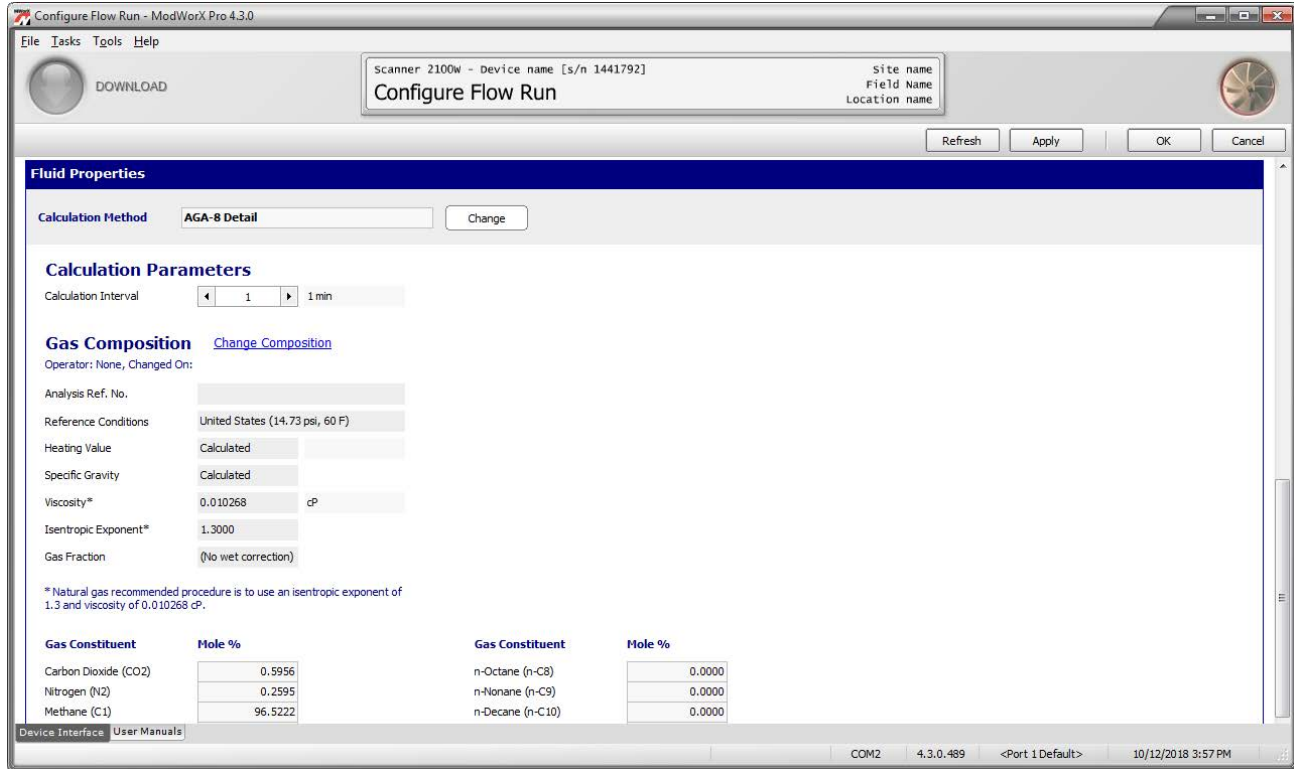
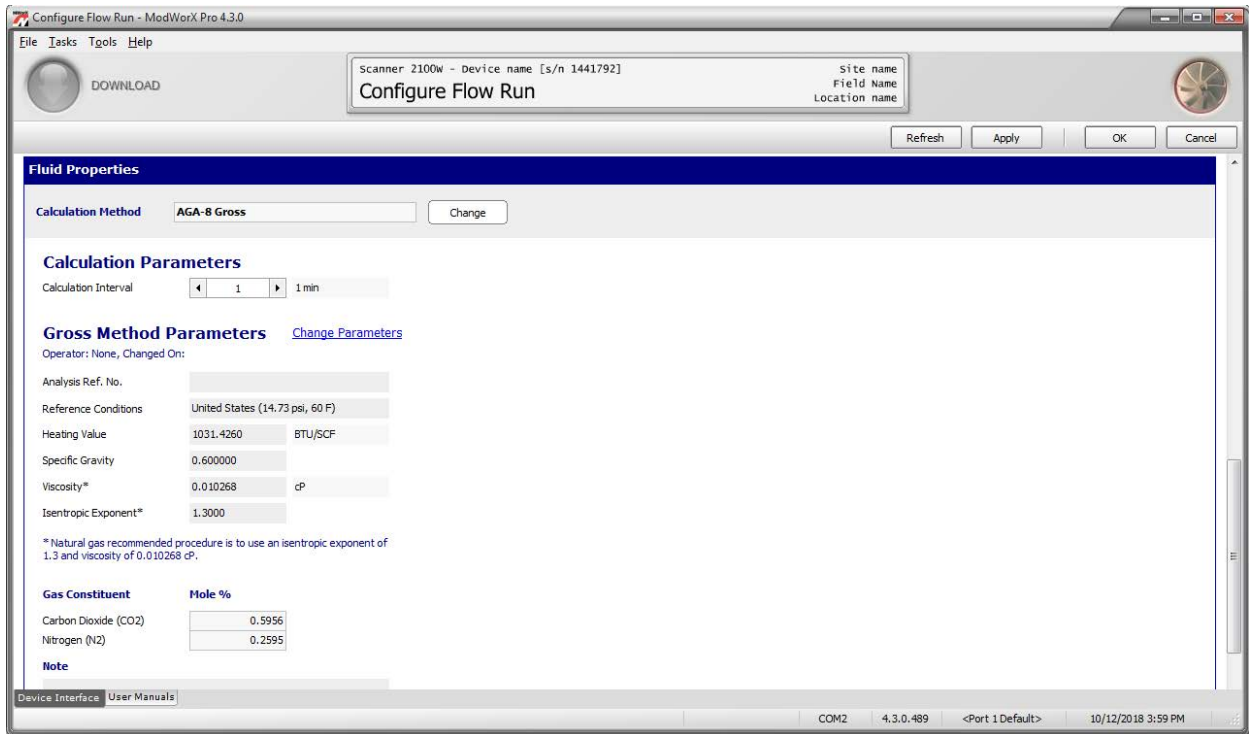

Figure 4.13
Figure 4.14
The contents of the Fluid Properties section of the Configure Flow Run screen vary, depending on the product being measured (gas, steam or liquid) and the fluid property calculation method selected. For example, when calculating gas flow with the AGA-8 Detail method, fluid property parameters include an extensive list of gas constituents (Figure 4.13, page 58). When the AGA-8 Gross method is used, only two gas constituents are configured. When calculating steam with a wet correction, only steam quality is configurable. Use the following steps to configure all fluid properties for the Scanner. When calculating liquid flow, density and viscosity values are configurable.
- a. If the flow run is configured for gas measurement, the Fluid Property section of the Configure Flow Run screen will display either Gas Composition information (AGA-8 Detail; see Figure 4.13), or Gross Method Parameters (AGA-8 Gross; see Figure 4.14, page 59). To change a parameter, click on the blue **Change Composition or Change Parameters** hyperlink and follow the screen prompts.